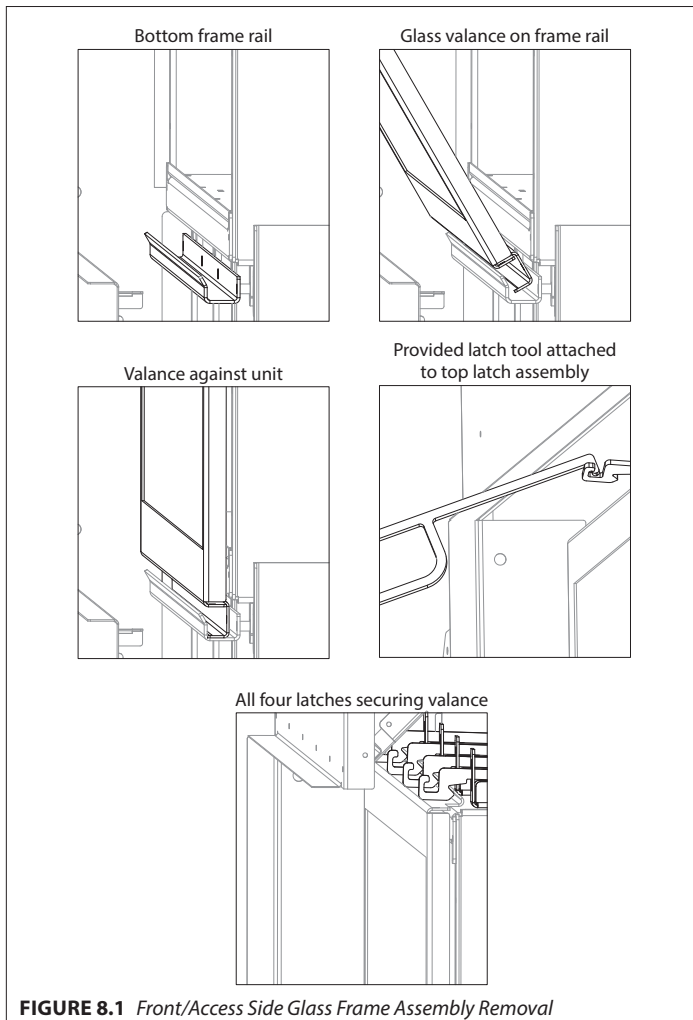

FIGURE 8.1 Front/Access Side Glass Frame Assembly Removal
2. Locate (4) spring-loaded latches securing the front glass assembly at the top of the firebox. Use the provided tool to unlatch the latch assemblies from the flange on top of the front glass valance. See Figure 8.1.
2. Use the provided tool to pull the (4) latch assemblies to latch with the flange on top of the front glass valance. See Figure 8.1.